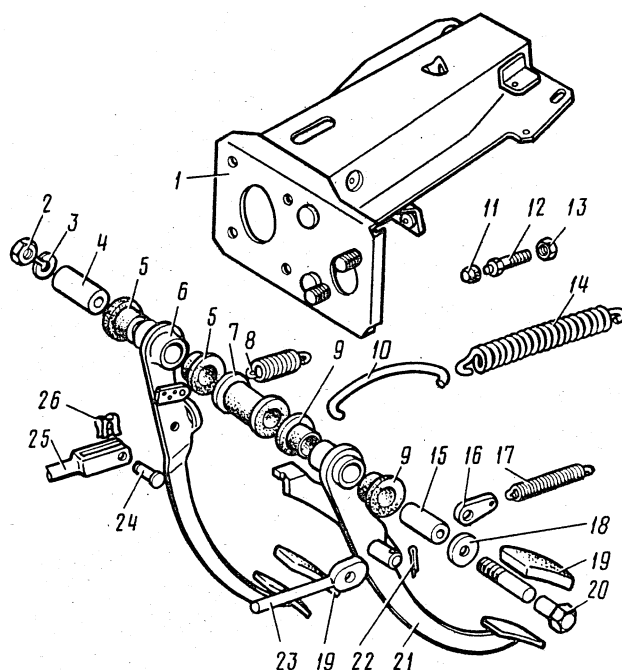

Fig.6-9. Parts of Clutch and Brake Pedal Bracket:
- detach the vacuum booster pushrod from the brake pedal by removing locking shackle 26 (Fig.6-9) and pin 24;